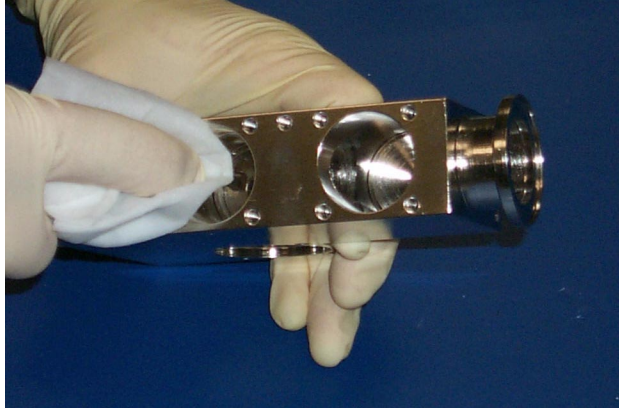

Figure 5-19 Discolored Spectrometer Tube Cavity
25. Using the Scotchbrite® pad from the spectrometer tube cleaning kit, polish away any discolored areas inside the spectrometer tube cavity (Figure 5-19).